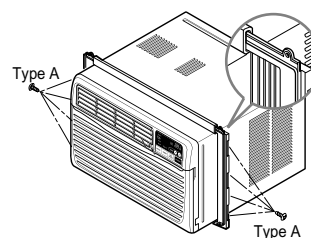

Figure 5
1. Insert the guide panels into the guides of the air conditioner. Fasten the curtains to the unit with screws (TYPE A) as shown Figure. 5.